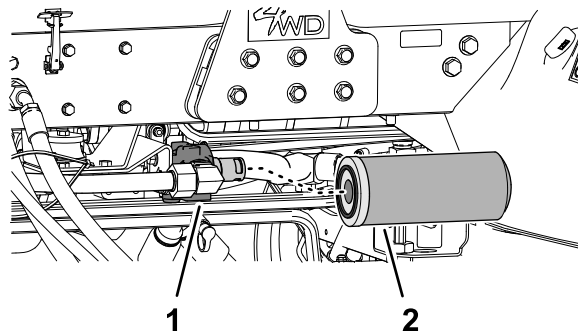

Figure 107
1. Clean the area around the return filter and filter head (Figure 107).